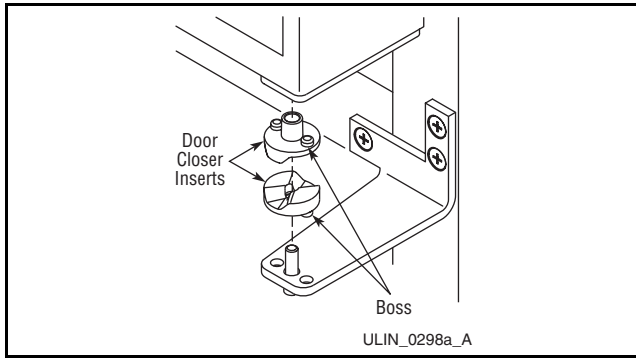

Figure 41
7. Reinstall the closers, lining up the bosses with holes in hinge and hinge plate (**Figure 41**).